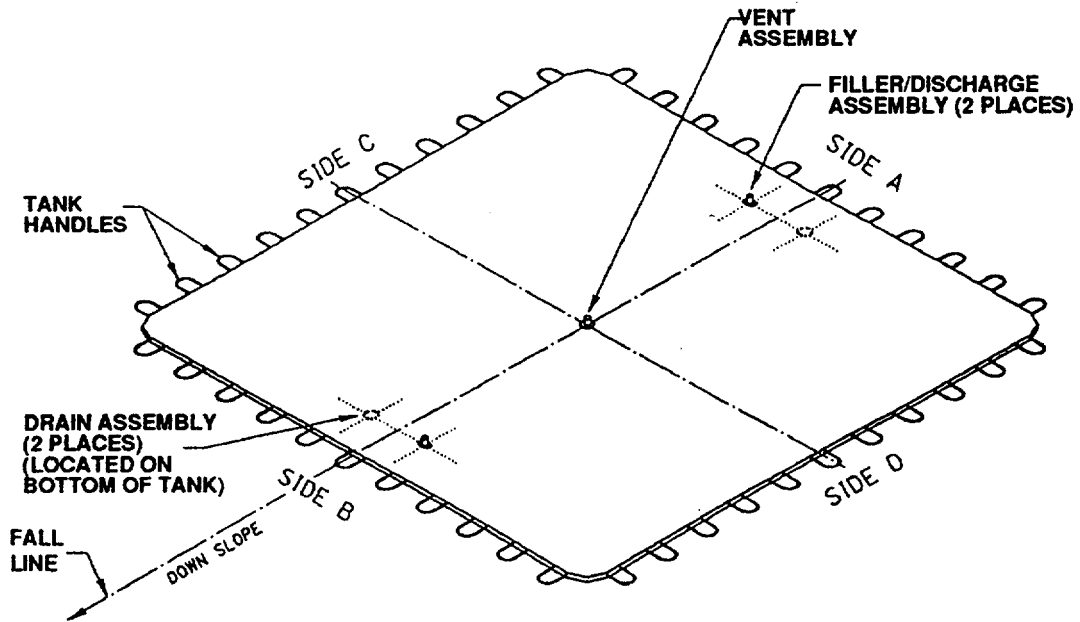

Figure 4-15. Tank Flat
- b. Using the tank handles and the deployment straps, pull the tank out to make it as flat as possible. Refer to figure 4-15.